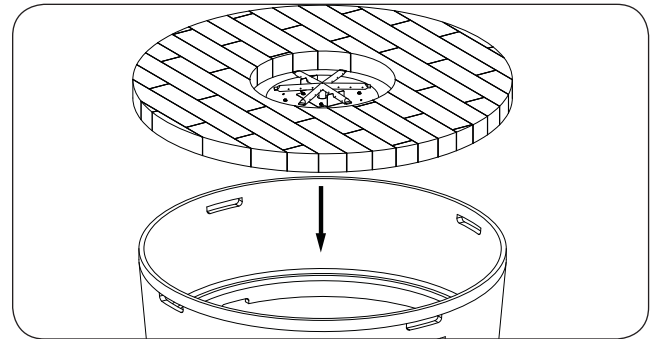

Fig. 26-2 Place top
3. **CAREFULLY** place the top on the unit (see Fig. 26-2).